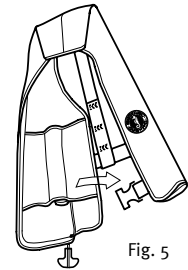

Fig. 5
- Undo the Velcro tabs on the wearer's right-hand side of the collar to expose the inflator (Fig. 5).